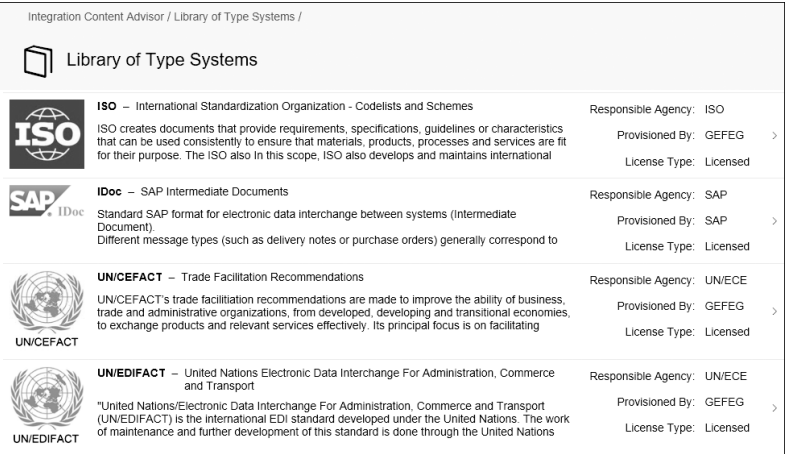

Figure 7.3 Type Systems in ICA
2. Select the **Library of Type Systems** link to get the overview of the type systems available in your ICA (Figure 7.3). By default, only the **SAP IDoc** and the **UN/CEFACT** type systems are shown as **Licensed**. All the other non-SAP type systems are available as well but are shown as **Unlicensed** if you haven't purchased them. You'll get an error message when trying to access the details of the unlicensed type systems.